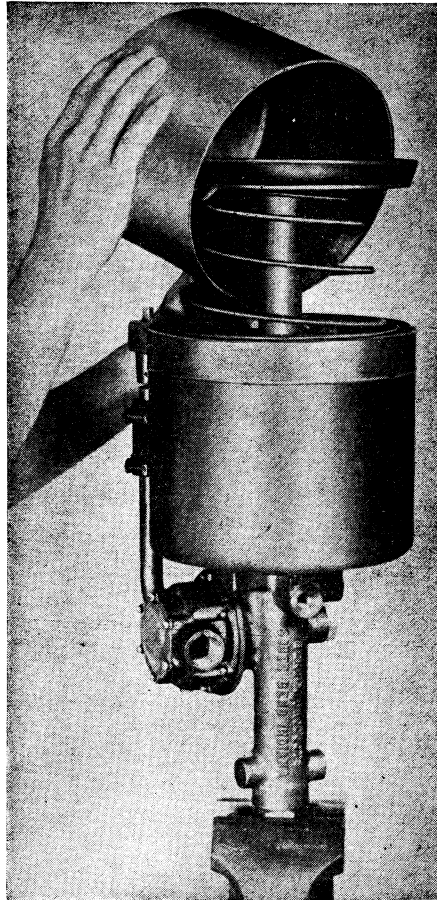

Fig. 33 Upper shell separated from center plate
8. Separate upper shell from center plate, Fig. 33.